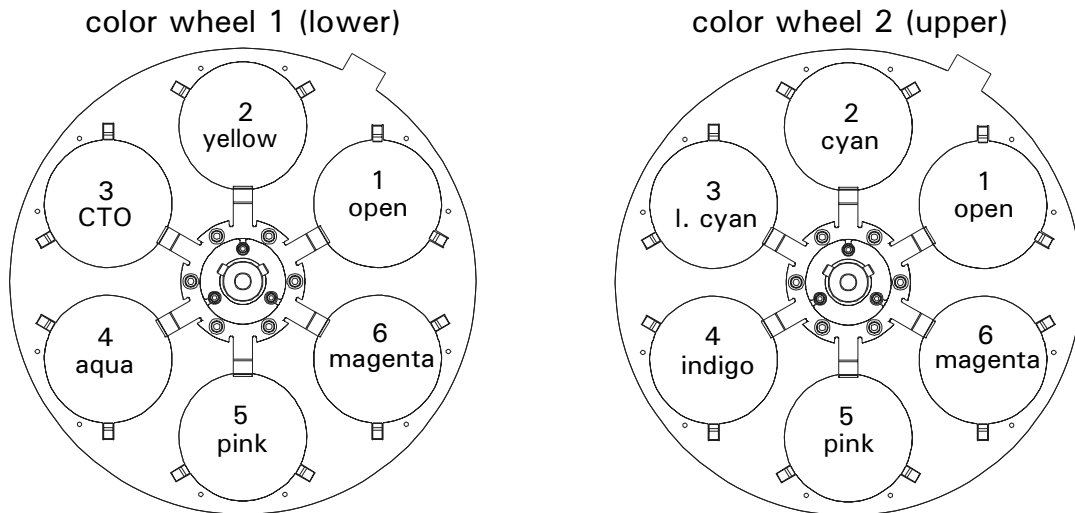

Figure B-5. Factory Color Wheels and Index Positions
5. Rotate the desired color wheel so that the color you wish to replace is accessible from the edge and rotate the opposing color wheel so that its open position is at the edge. Take special note of the index positions on the color wheel. Refer to Figure B-5.